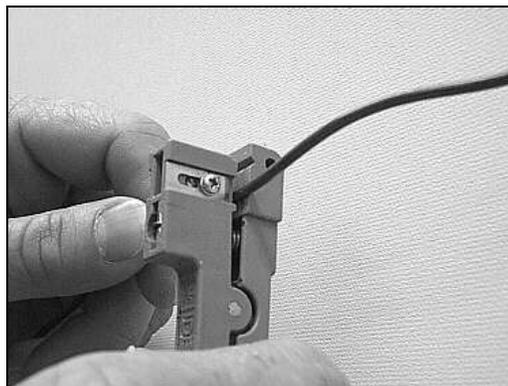

Figure 42 – Ring cut the buffer tube.
6.27 If all fibers in a tube are to be spliced, the tube and fibers can be cut at the appropriate location. Consult the closure instructions to determine the required fiber and tube lengths. Use a buffer tube cutting tool to ring cut the tube and remove the tube from the fibers (Figure 42). When removing a long length of tube it is recommended to remove the tube in approximately 16-inch sections.